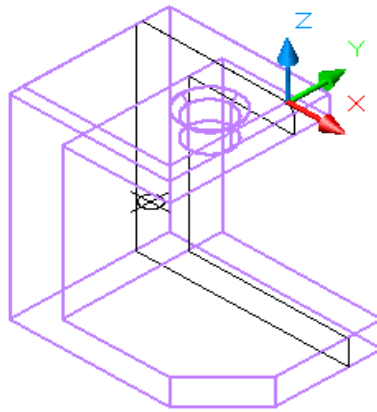

Figure Step 14
Step 14 Using what you learned in Module 20, use the SECTION command, as shown below, to create a section at the location of the construction line you just drew. (Figure Step 14)